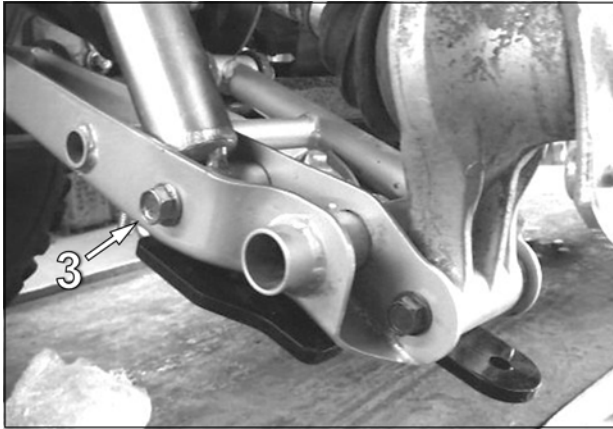

Fig. 9
9. Re-install shock absorber on lower suspension arm and re-tighten the bolt (3) to specification. Fig. 9